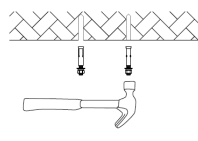

Fig. 7
3. Install the expansion shields in the wall (Fig. 7).